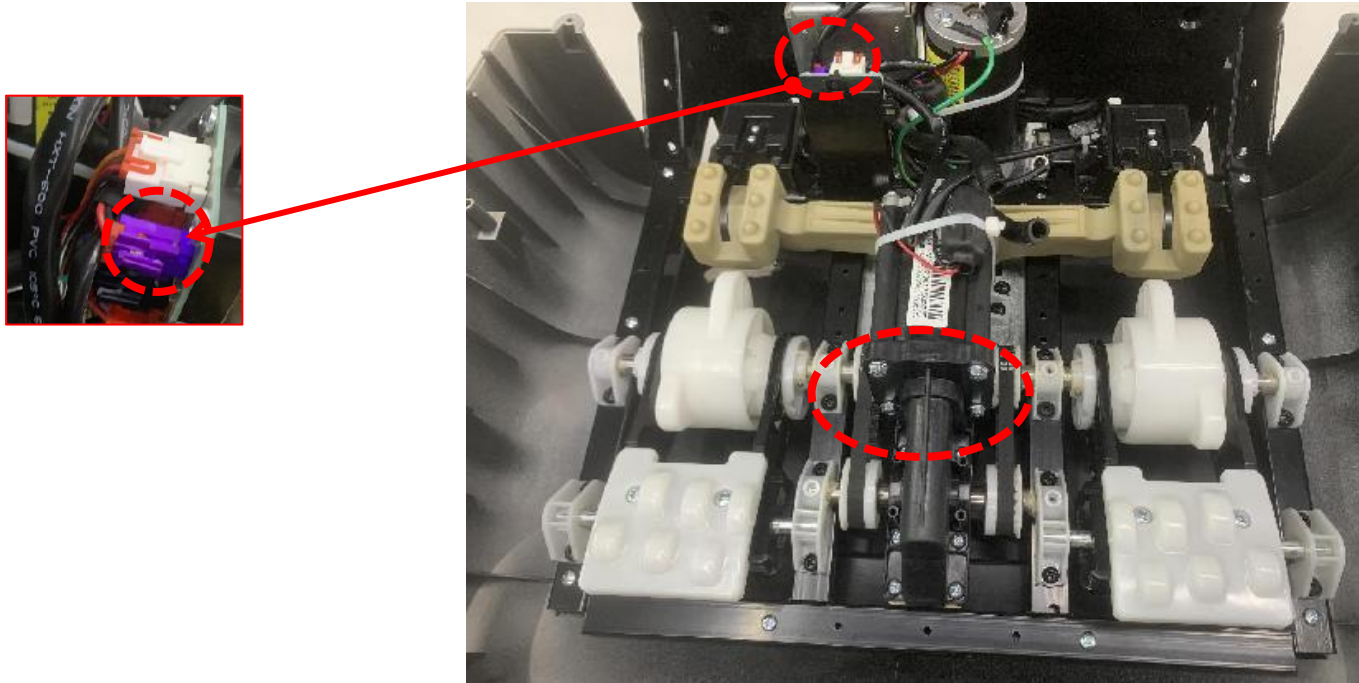

Figure 1
3. Separate the purple plug-in at the red ring, and remove the four motor fixing screws to remove the roller motor (Figure 1)